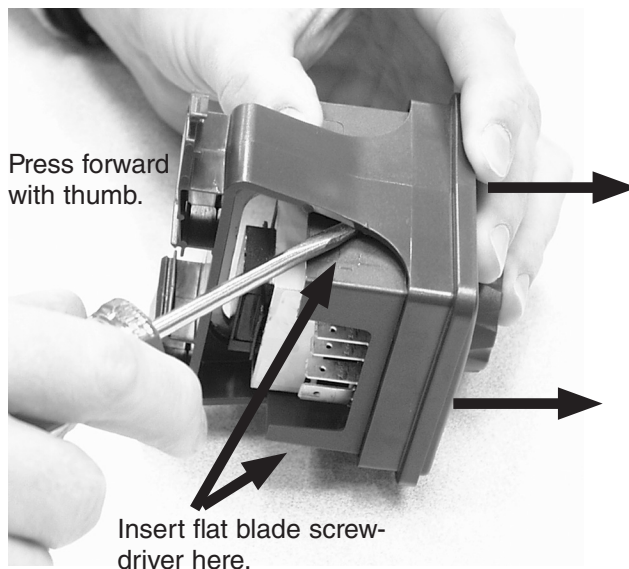

Figure 4b
4. Insert a flat blade screwdriver between the DIN rail bracket and the case. Rotate the screwdriver to release the DIN rail bracket hooks from the ridges on the case, while firmly pushing the controller out the front of the DIN rail bracket. Alternate back and forth between the top and then the bottom. Be sure to support the controller as it comes out of the bracket. See Figure 4b.